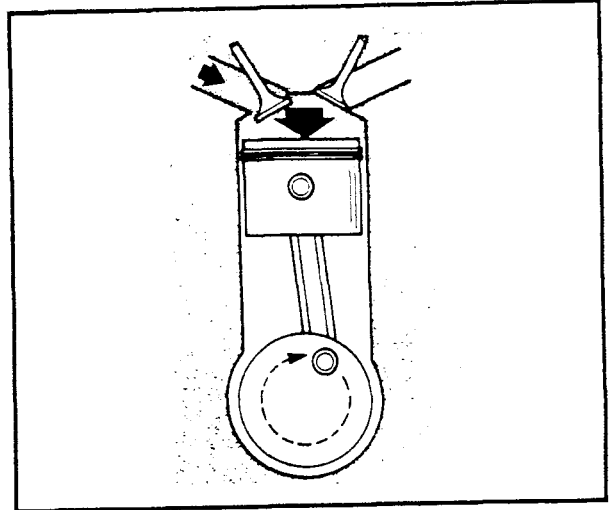

Figure 2-1. Intake Stroke
- See Figure 2-1. The piston downward movement creates a partial vacuum in the cylinder. Air, at atmospheric pressure enters through the air cleaner and is mixed with fuel in the carburetor. The volatile fuel/air mixture then passes into the cylinder through the intake valves. The exhaust valve(s) remain closed during this stroke and the crankshaft turns half a revolution (180°).